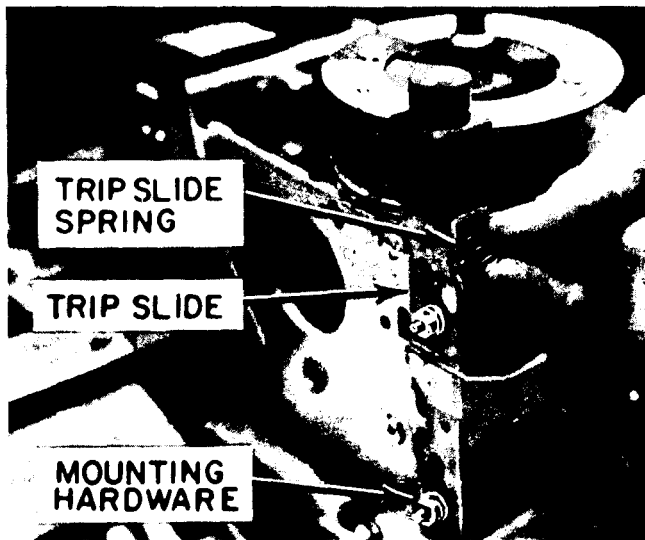

Fig. 3. Removal of trip-slide spring
- d. Remove the trip slide spring and trip slide. See Fig. 3.